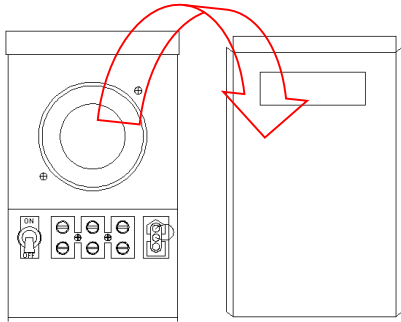

Fig 1
1. Open the upper cover of transformer.(Fig 1)